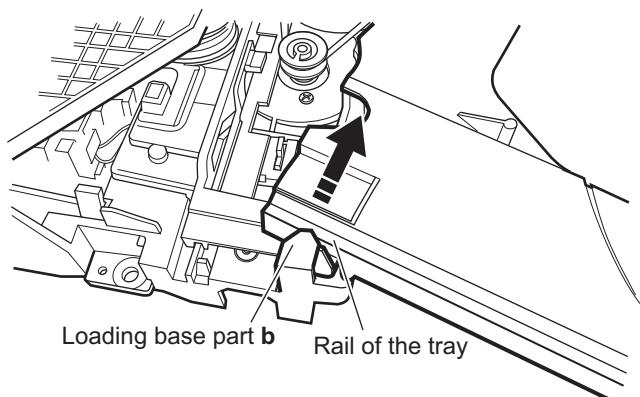

Fig.4
- (5) The rail of the tray is removed from **b** of the loading base. Then, remove the tray upward. (See Figure 4.)